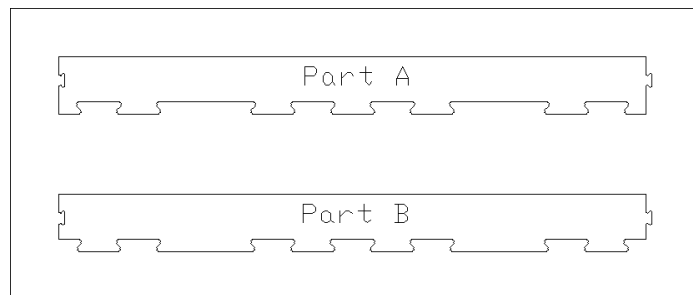
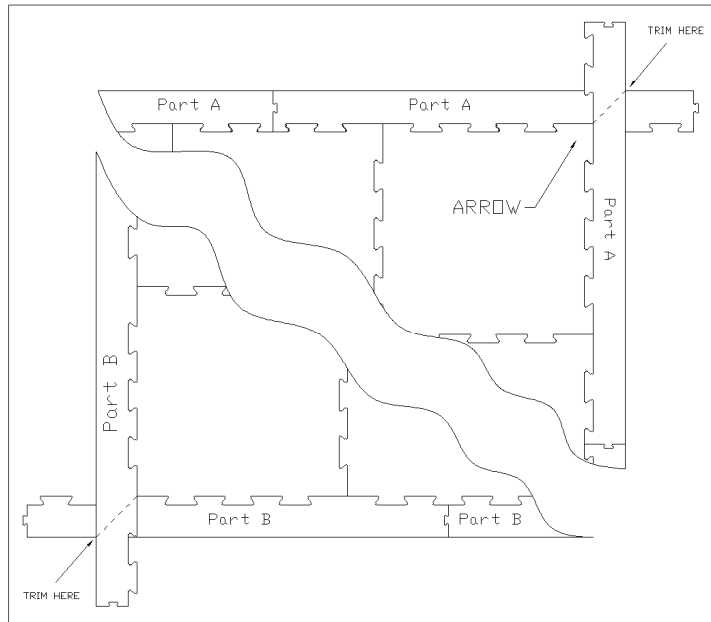

Figure 1
Figure 2
2. Starting with Part A (Fig. 1), align the interlocking tabs of the reducer strip to the interlocking tabs of the tile (Fig. 2).
3. Starting with Part B (Fig. 1), align the interlocking tabs of the reducer strip to the interlocking tabs of the tile (Fig. 2).
2. Using a carpenter square or straight edge create a line from the corner of the tile to the outside overlapped intersection of the reducer strips (Fig. 2).